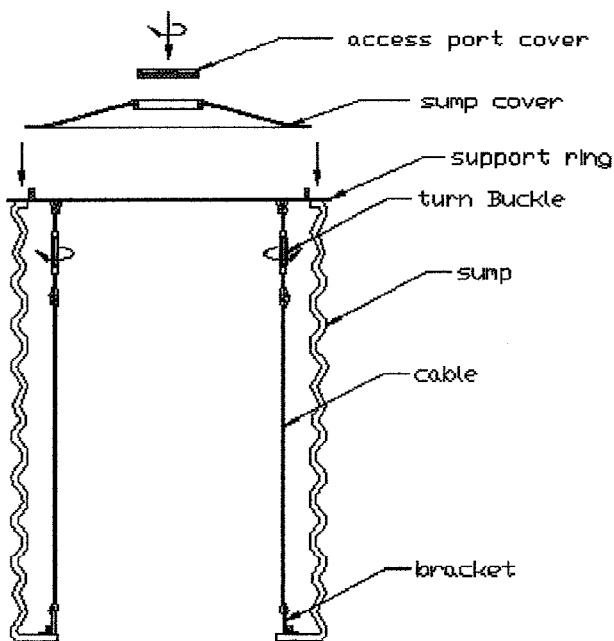

Figure 5
6. Place the Sump Cover onto the surface of the Support Ring as shown in Figure 5. Holes of the cover should align with the studs of the Support Ring to allow surface contact. Insert by screwing in the access port cover into the access port as shown in the diagram.